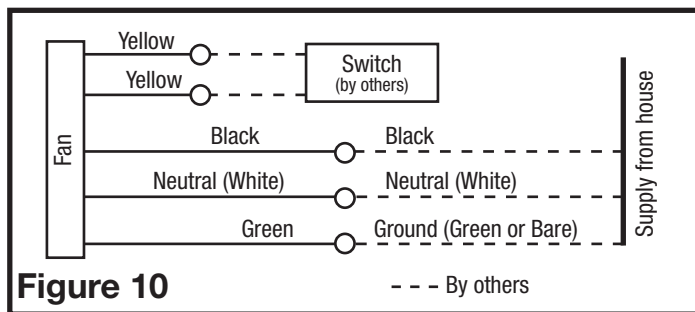

Figure 10
4. For two speed fans wired for continuous ventilation, connect the White wire of the fan to the White (Neutral) wire from the power source. Connect the ground wire from the house to the Green wire from the fan housing. Connect the Black wire of the fan to the Black wire (Hot) from the power source. The fan will operate on low speed continuously and boost to high upon a rise in humidity. Using a properly grounded standard duplex toggle switch (such as Leviton 5224-2W, not included) connect the Black wire from the supply to one side of the top and bottom switch. A manual override switch (not included) can be used to provide a manual fan Off function (**Figure 10**).